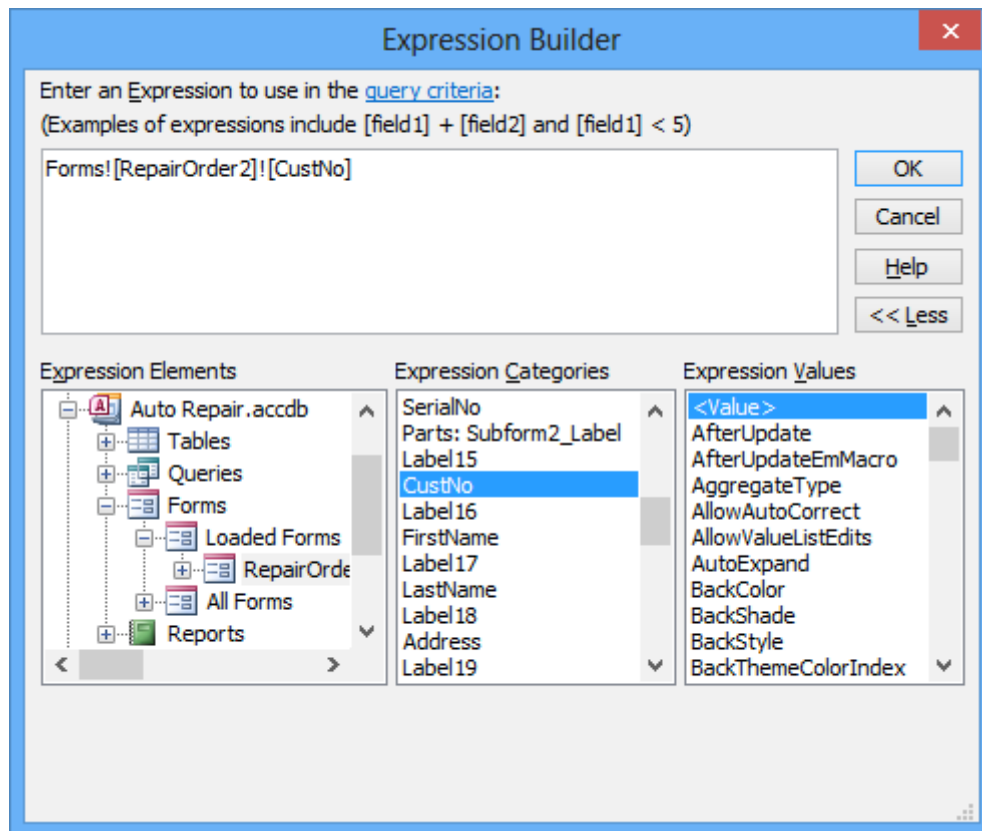

Figure 21: Expression Builder with Reference to *CustNo* Form Field
- Double-click the *CustNo* field. You may need to scroll to find the *CustNo* field. A reference to the *CustNo* field on the *RepairOrder2* form appears in the text window (Figure 21).